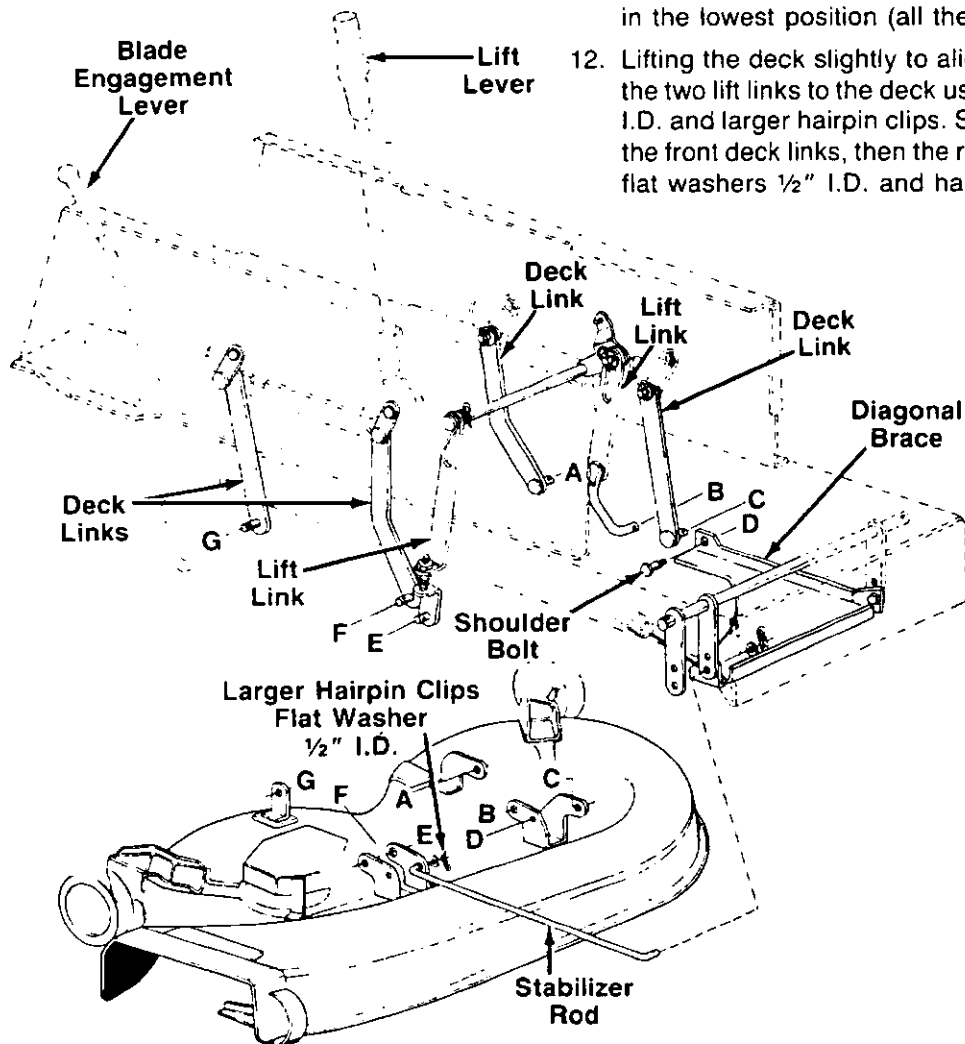

FIGURE 13.
3. Move the blade engagement lever to the disengaged position (all the way back). Place the lift lever in the highest position (all the way back). See figure 13.
9. Attach the diagonal brace to the deck as shown using shoulder bolt, 3/8" lock washer and hex nut. Be certain the shoulder bolt is through the diagonal brace. See figure 13.
10. Attach the stabilizer rod to the deck using flat washer 3/8" I.D. and smaller hairpin clip. See figure 13.